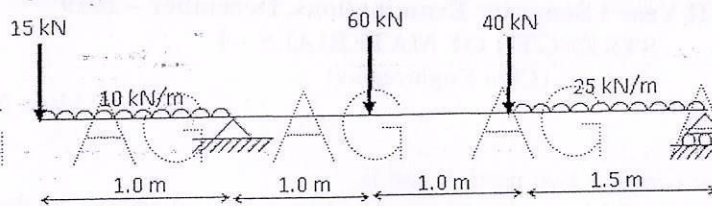

Figure: 2
4. Draw the shear force and bending moment diagrams of a beam supported and loaded as shown in Figure 2. [10]